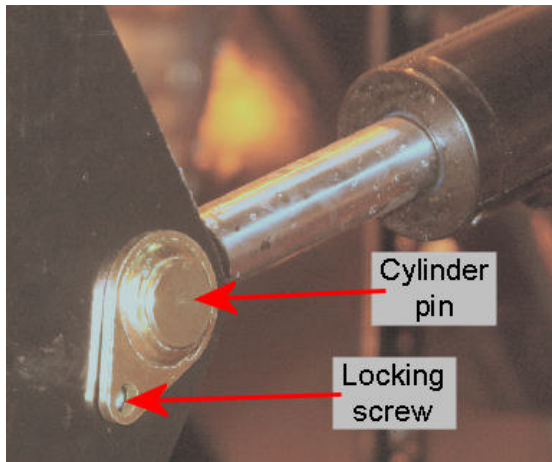

Fig 5-6 Ram cylinder pin
3. At the piston end of the Ram, remove the cylinder pin locking screw and knock out the cylinder pin (Fig 5-6).